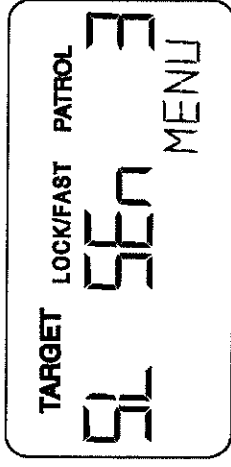

Fig. 4
The Same Lane sensitivity of **STALKER II** is adjusted by pressing the **MENU** key a third time. The **▲** and **▼** keys then cycle through the five (5) sensitivity levels: **5En 0**, **5En 1**, **5En 2**, **5En 3**, and **5En 4** (Fig. 4 shows sensitivity level 3, the factory default setting). In each case, the right-hand display refers to the current sensitivity setting. Sensitivity varies from **5En 0** (0 range) to **5En 4** (maximum range). **The sensitivity must be set for same-lane mode and opposite-lane mode separately.** Press the trigger (or **XMIT/HLD** on the remote control) to exit the Operator Menu.